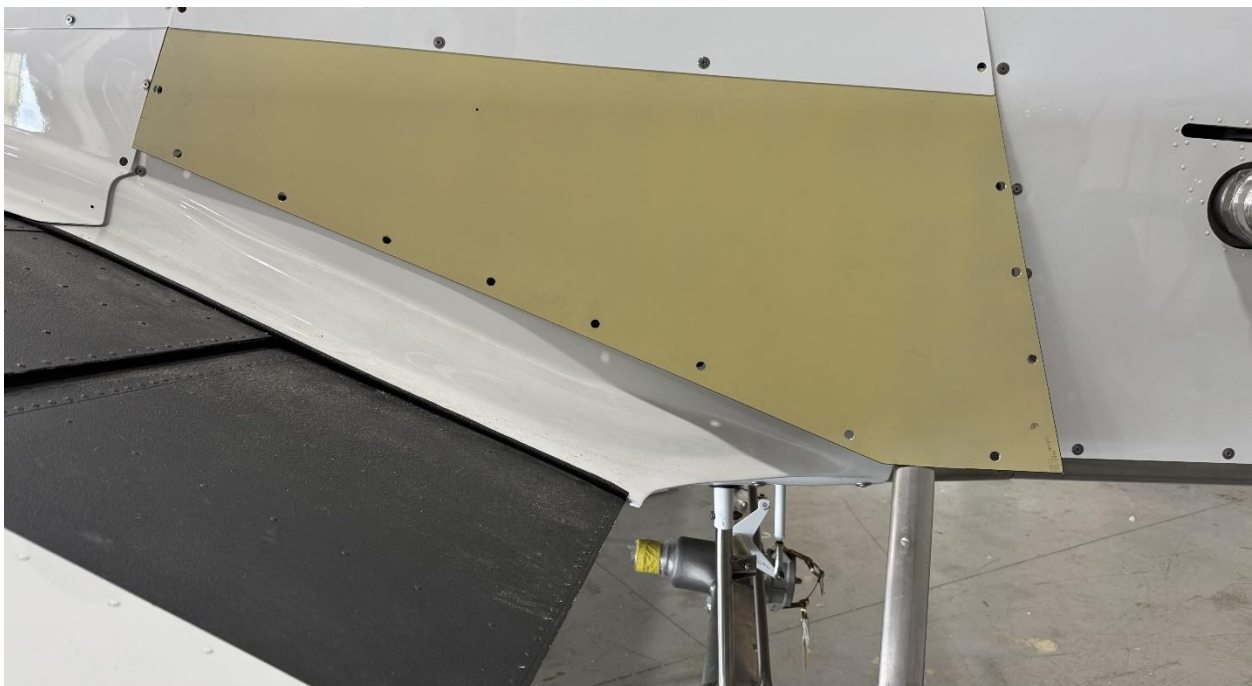

Figure 6
8. Temporarily install skins using Camlocs as required. (Reference Figure 6)